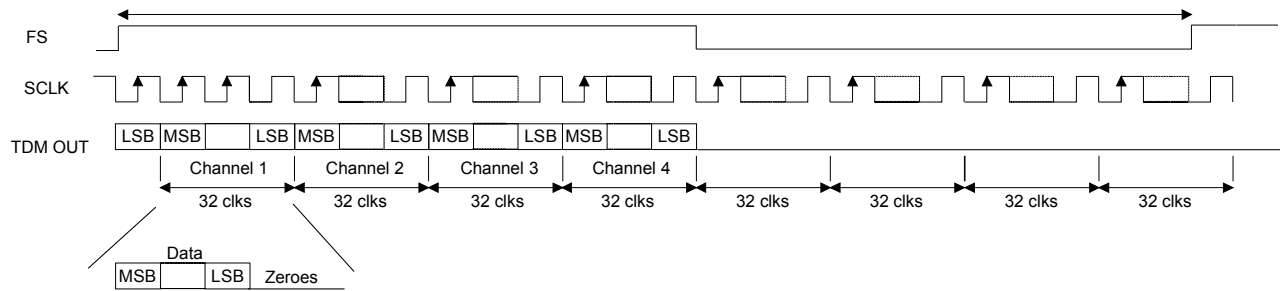

Figure 12. TDM Format
In TDM Mode, all four channels of audio data are serially clocked out during a single Frame Sync (FS) cycle, as shown in Figure 12. The rising edge of FS signifies the start of a new TDM frame cycle. Each channel slot occupies 32 SCLK cycles, with the data left justified and with MSB first. TDM output data should be latched on the rising edge of SCLK within time specified under "Serial Audio Interface - TDM Timing" section on page 16. The TDM data output port resides on the SDOUT1 pin. The TDM output pin is complementary TDM data. All SDOUT pins will remain active during TDM Mode. Refer to Section 4.11 "Optimizing Performance in TDM Mode" on page 29 for critical system design information.